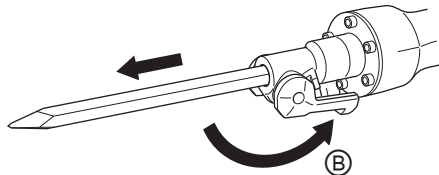

Fig. 6
- (3) Clamp the accessory into place by bringing the retainer to clamp position ②. To make sure that the accessory is properly mounted, pull on the accessory. (Fig. 6)